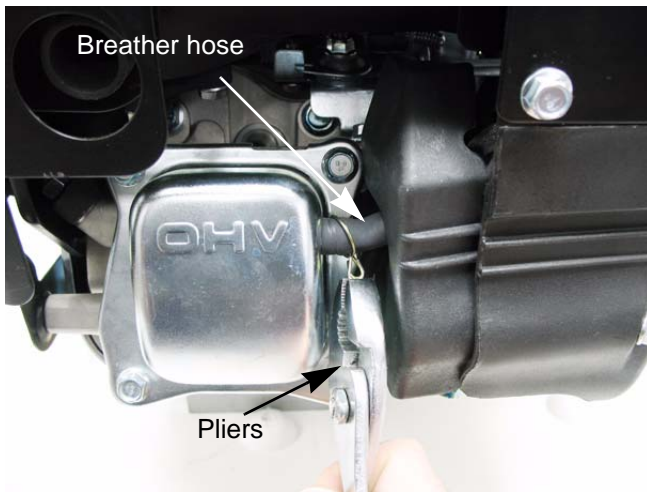

Figure 5.9
2. Squeeze the spring clamp that secures the breather hose to the valve cover nipple and slide it back. Then remove the breather hose from the valve cover nipple. See Figure 5.9.